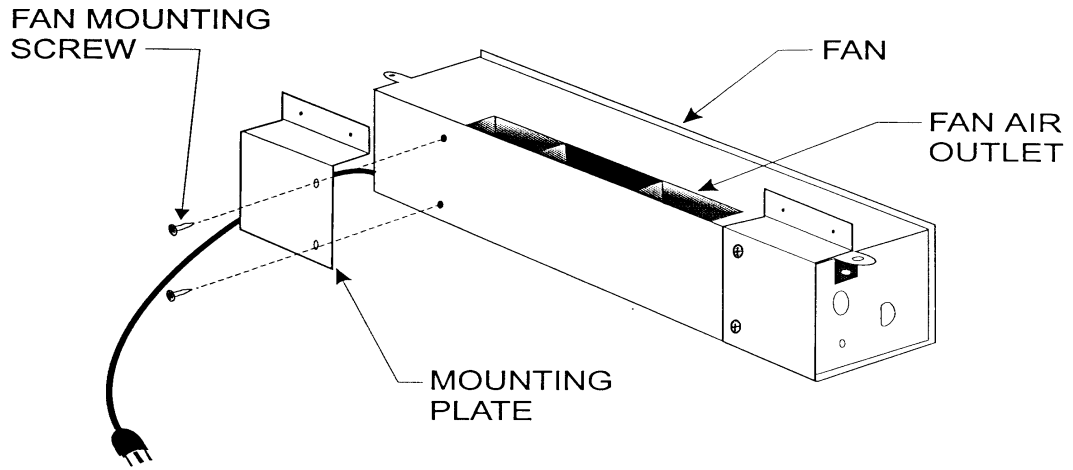

Figure 3
1. Install the two formed mounting plates onto the fan housing as shown in figure 3 and fasten with the four provided screws through the holes as indicated.